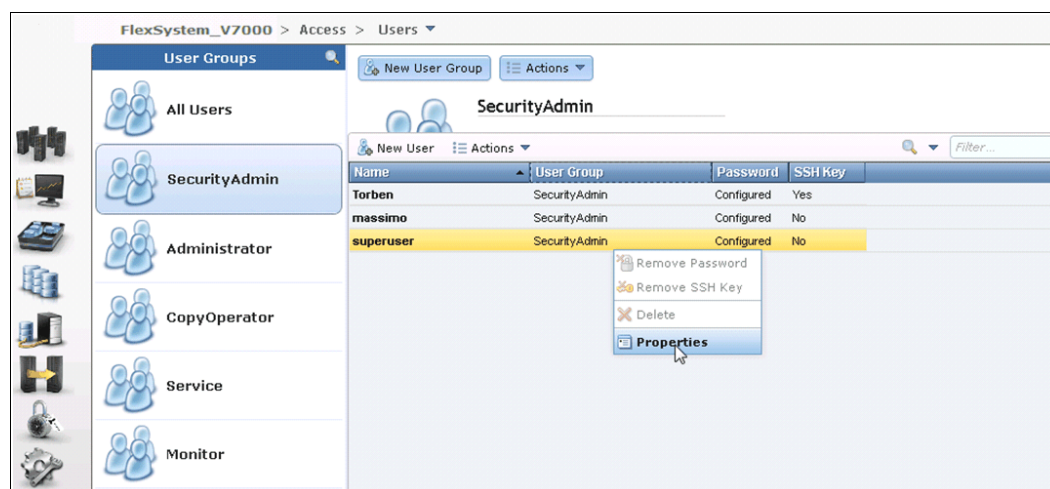

Figure A-6 Superuser properties
2. Right-click the user for which you want to upload the key and click **Properties** (Figure A-6).